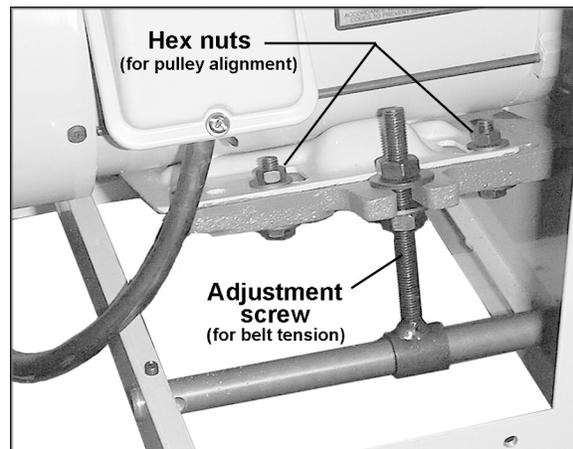

Figure 12
2. Loosen the bottom nut on the motor adjustment screw (Figure 12) with a 17mm wrench.
5. Tighten the bottom nut on the adjustment screw (Figure 12).
2. If the straight edge does not lie flat on both pulley faces, open the rear panel, and loosen the four hex nuts on the motor plate (see Figure 12) with a 12mm wrench.